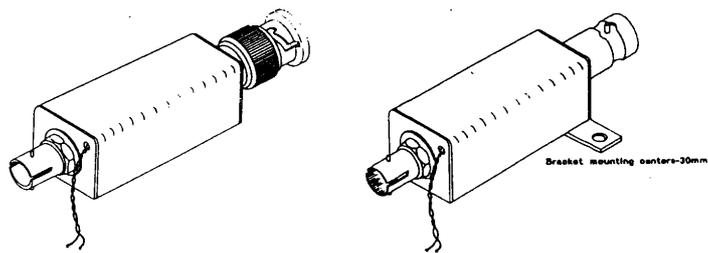

Figure 4: Transmitter/Receiver Modules
- 1 channel modules for wall mounting **or** direct camera/monitor plug on (Fig. 4).